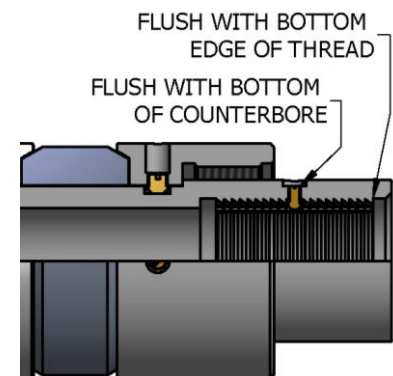

Fig. 7
K-2.2) Thread ratchet ring (3) into rubber mandrel (11) until flush with bottom edge of thread in rubber mandrel (11) (Fig. 7).
K-2.4) Screw shear screw (8) into rubber mandrel (11). Tighten until shear screw is flush with bottom of counter bore of threaded hole in rubber mandrel (11) (Fig. 7).